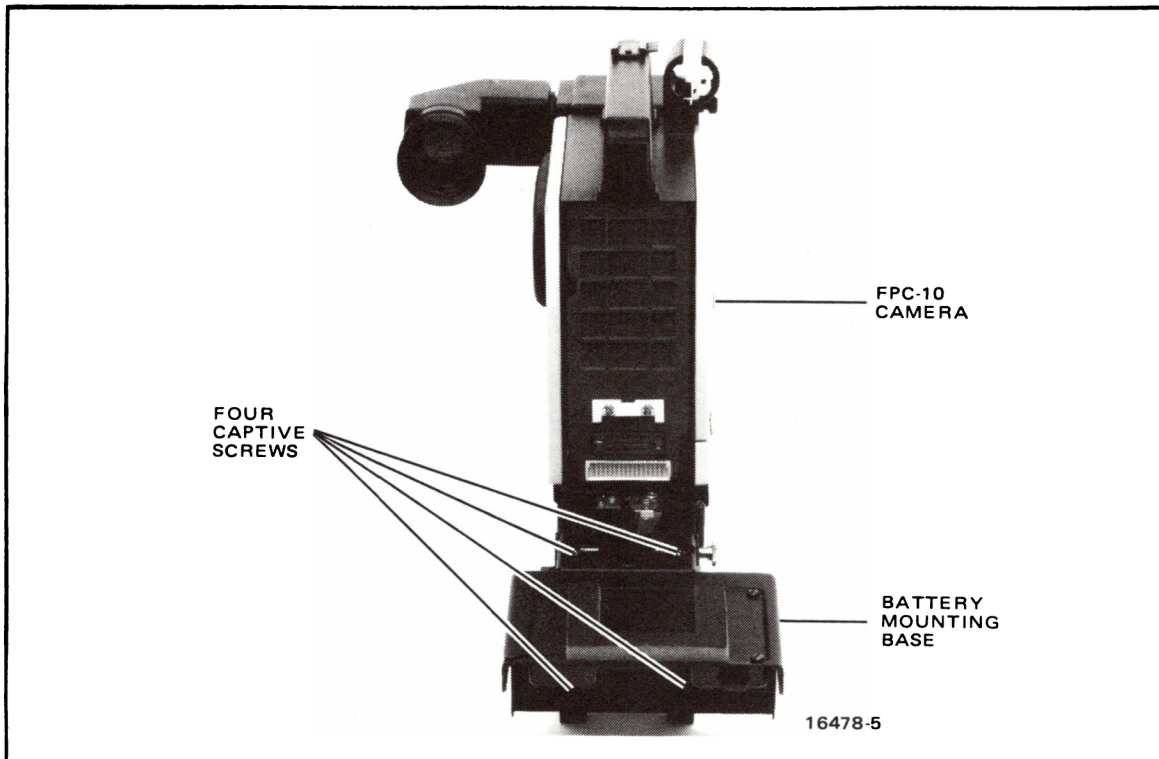

Figure 6-3. Removing Battery Mounting Base from FPC-10 Camera
- STEP 2 See Figure 6-3. Remove battery mounting base from battery bracket by loosening four captive screws. Disconnect battery connector to completely free mounting base from bracket.